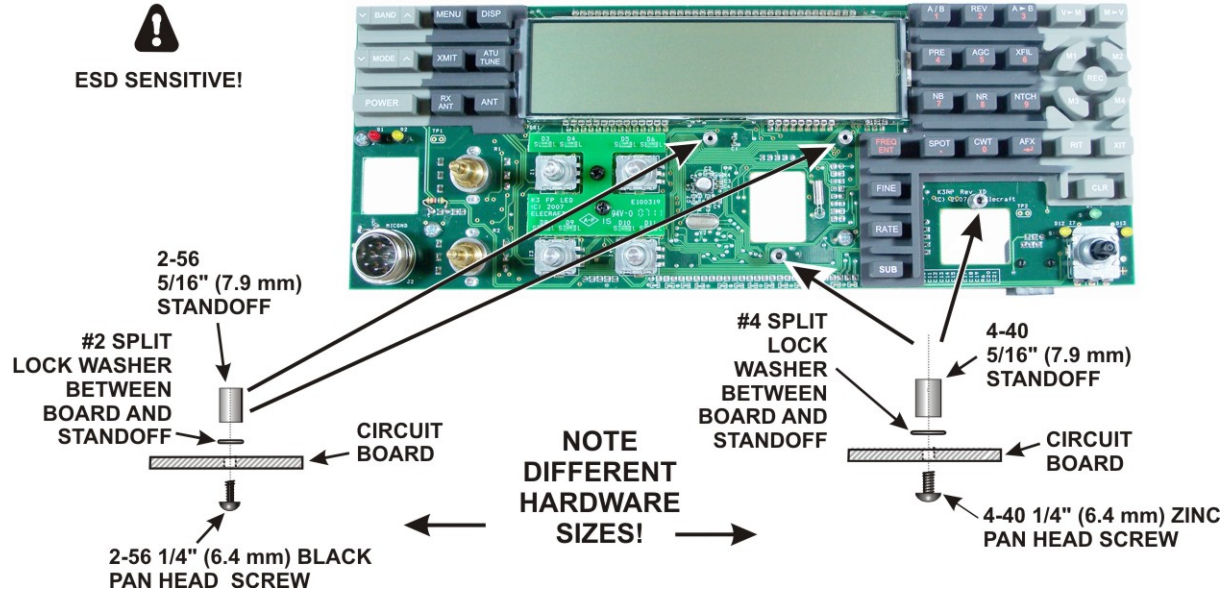

Figure 37. Preparing the Front Panel Board for Mounting, Part 2.
- On the front side of the board, mount four standoffs as shown in Figure 37.
- Two 4-40 5/16" (7.9 mm) standoffs are mounted on the front as shown in Figure 37.
- Two 2-56 5/16" (7.9 mm) standoffs are mounted on the front as shown in Figure 37.